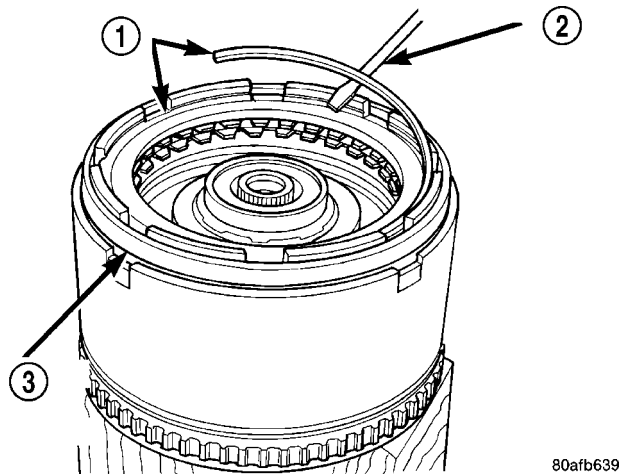

Fig. 244 Install Reverse Clutch Snap Ring
(30) Tap reaction plate down to allow installation of the reverse clutch snap ring. Install reverse clutch snap ring (Fig. 244) (Fig. 245).